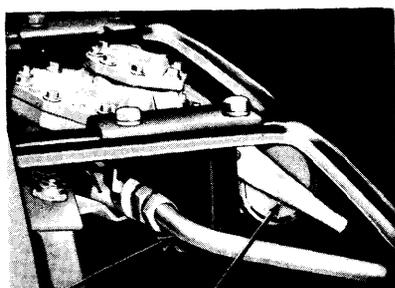

FIG. 60—Wiper Motor Mounting
3. Start the outlet line in the fitting, position the motor to the mounting bracket and install the mounting screws. Tighten the outlet fitting (Fig. 60).